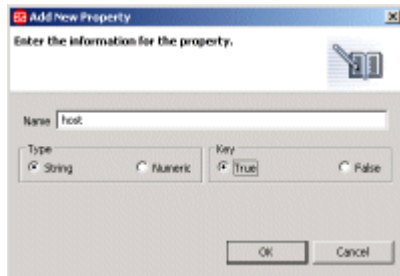

Figure 9-60 Adding a new property
35. Enter host in the Name text field, and select **True** in the Key area, as shown in Figure 9-60 on page 477.